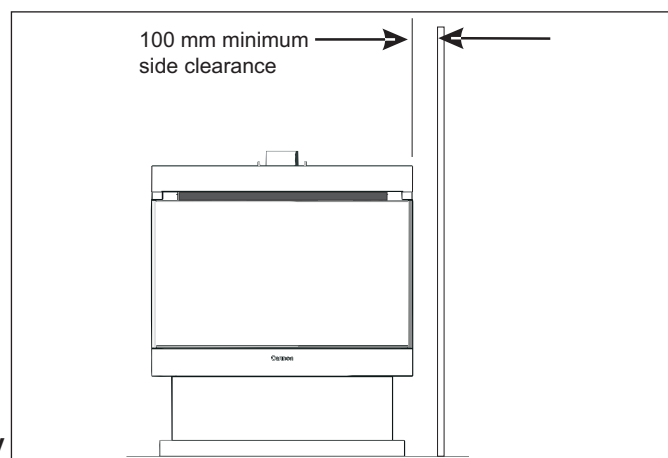
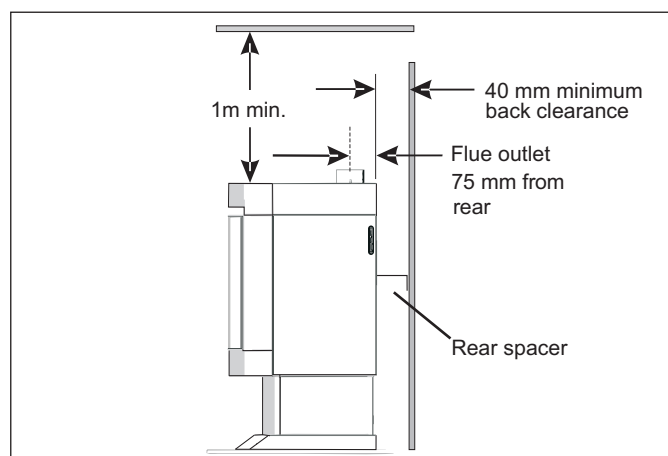

FIG 4
FIG 5
For minimum clearances refer **FIG 4** and **FIG 5**.
4. Fit rear spacers as per **FIG 5**.